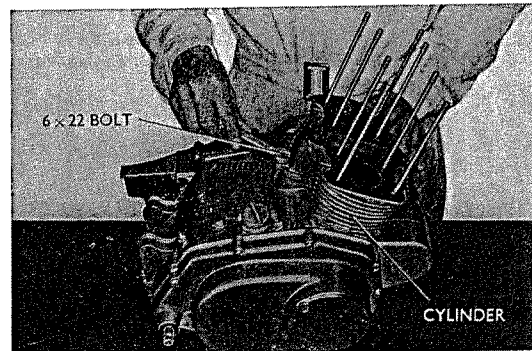

Fig. 3.38 Inspection cylinder
1. Remove the cylinder as in Section 3.2. 1 and the 6×22 bolt retaining the cylinder; the cylinder can be removed from the stud bolt. (Refer to Fig. 3.38)